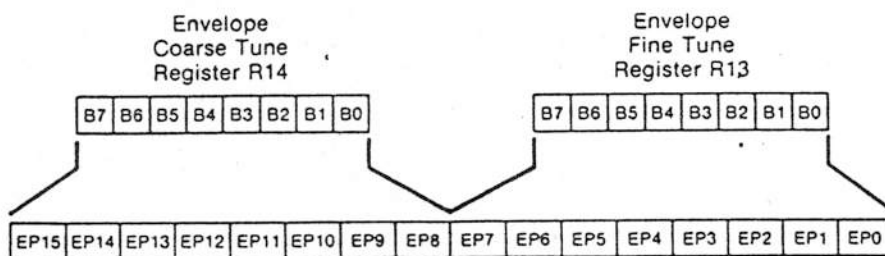

Figure 3-10. 16-BIT ENVELOPE PERIOD (EP) TO ENVELOPE GENERATOR
3.3.7.6 Envelope Period Control (Register R13, R14) -- The frequency of the envelope is obtained in the PSG by first counting down the input clock by 256, then by further counting down the result by the programmed 16-bit Envelope Period value. This 16-bit value is obtained in the PSG by combining the contents of the Envelope Coarse and Fine Tune registers, as illustrated by Figure 3-10.